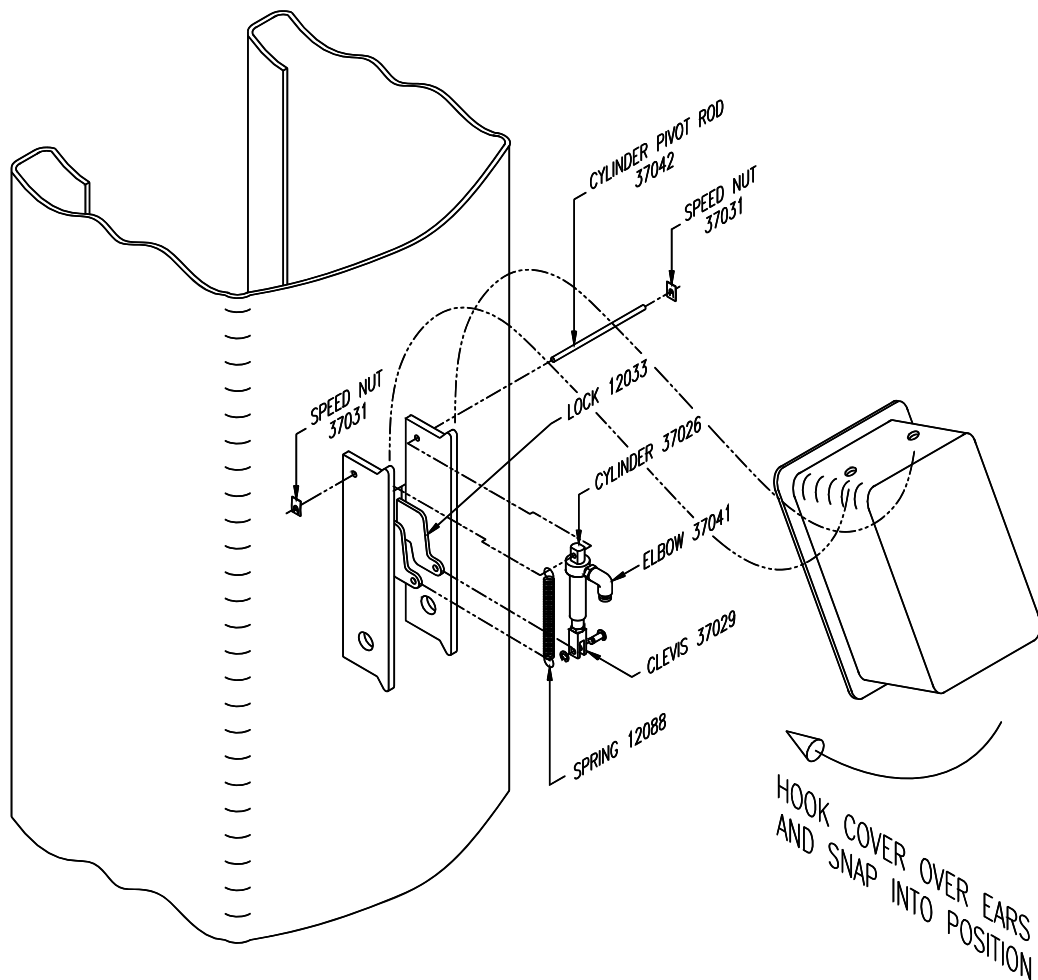

Figure 4
10. Install the locking pawl, actuator and spring (Fig. 4). Adjust air cylinder clevis to retract lock against inside back of column when air cylinder is fully extended. Tighten air cylinder clevis jam nut against clevis.